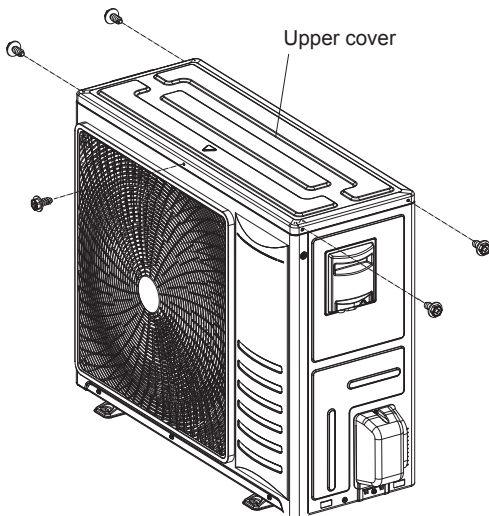

Fig.2.2
2. Remove 5 fixing screws on the top and remove the upper cover, as is shown in Fig.2.2.